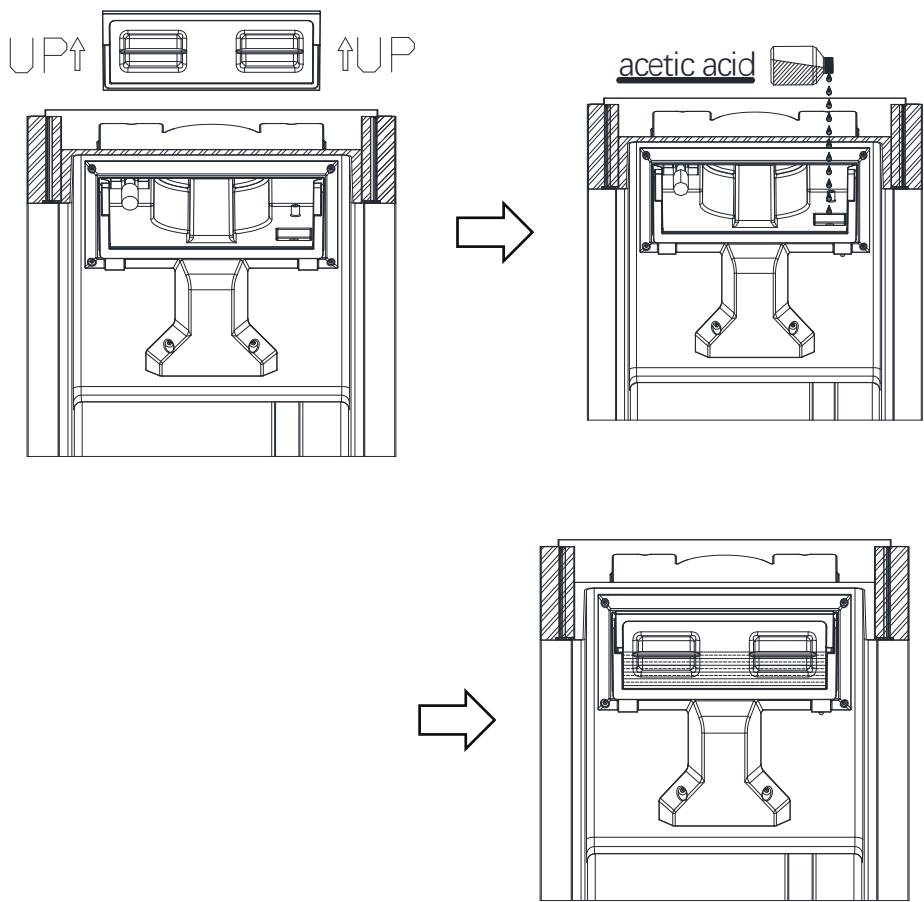

Fig.8
1. Use both thumbs to open the transparent window. (Fig.8)
3. Appropriate amounts of acetic acid solution was added at the indicated positions. (Fig.8)